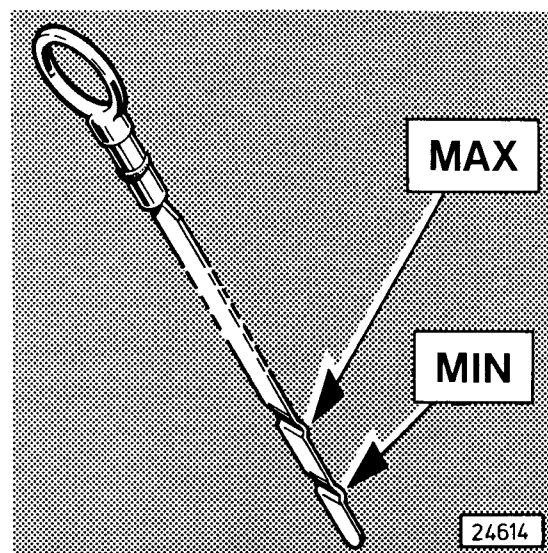

Fig. 15
2.2 Checking Oil Level (Fig. 15) - see page 106 -